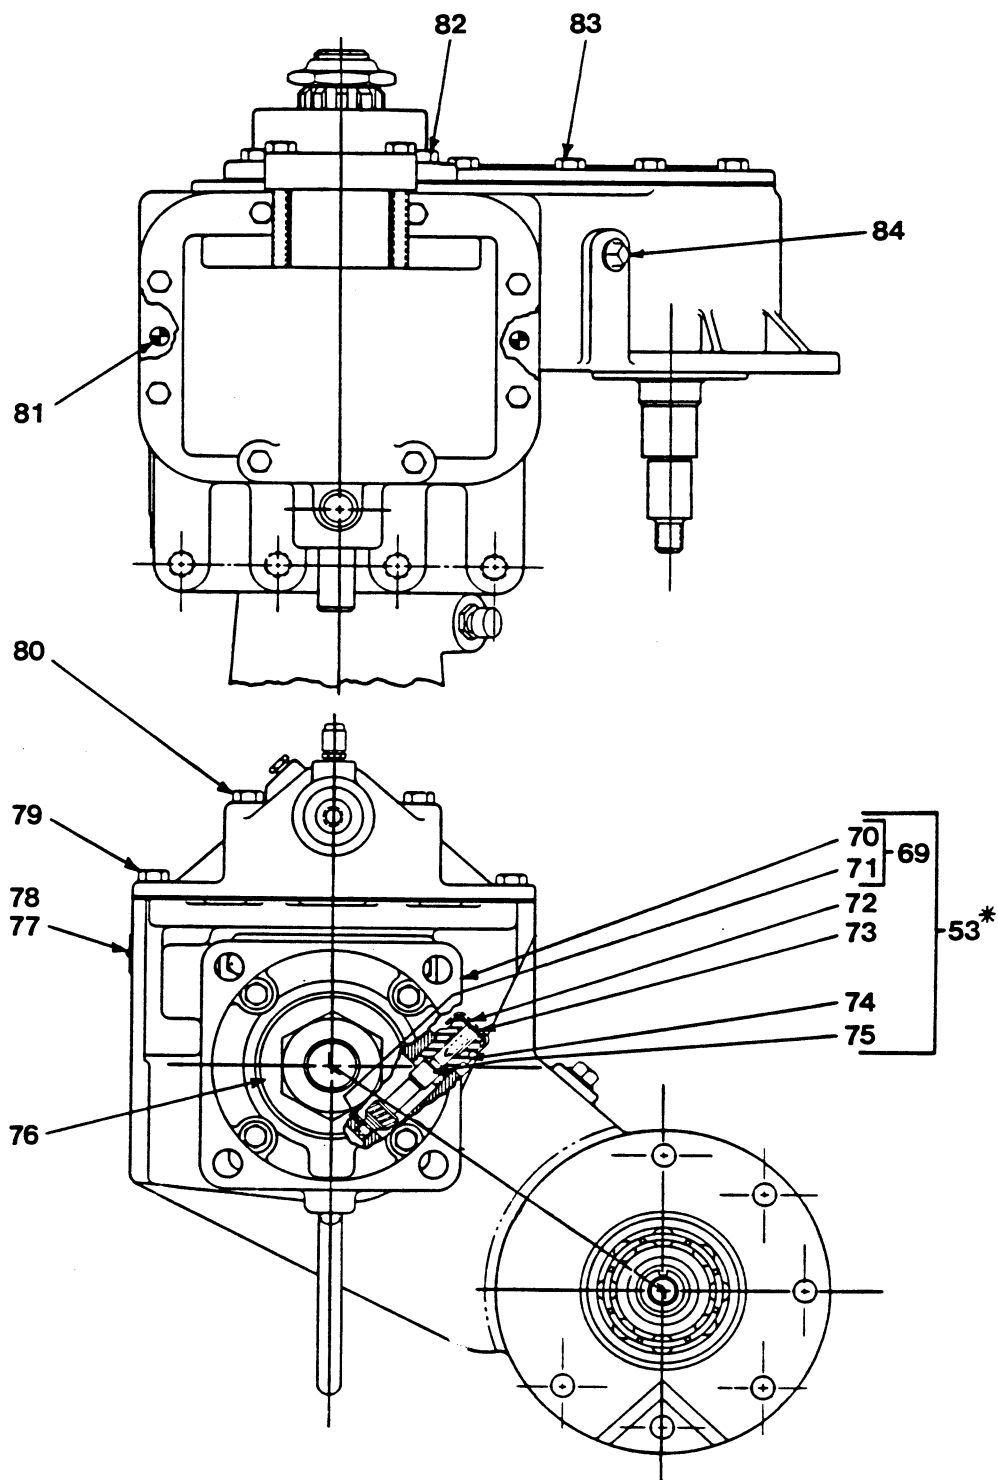

Figure 3A. Gearbox Assy 24571-025 (Continued)
*Note: See Figure 3A For Additional Components Of Tail Shaft Assembly